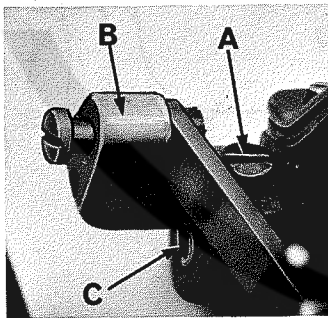

Fig. 12
The thread tension release is set correctly when it begins to function at the point when the upper feed roller begins to raise. When adjustment is necessary, loosen screw (A, Fig. 12) in lift-lever (B). Facing the tension release shaft (C) from the RIGHT end of the machine, insert screwdriver in slot in shaft and rotate counterclockwise to retard, or clockwise to advance the release